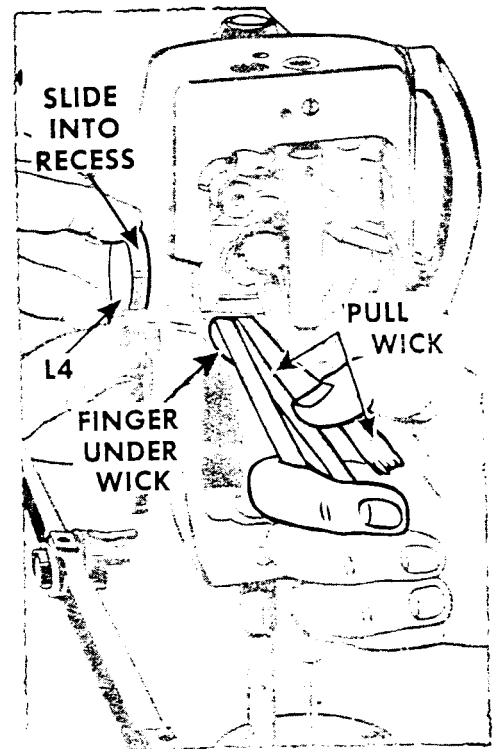

Fig. 64. Pulling Wick into Machine
3. Place index finger under wick and holder body and simultaneously pull the oil-removing wick, as required, sliding the hinge plate and cover **L4** fully into its recess in the head of the machine, as shown in Fig. 64.